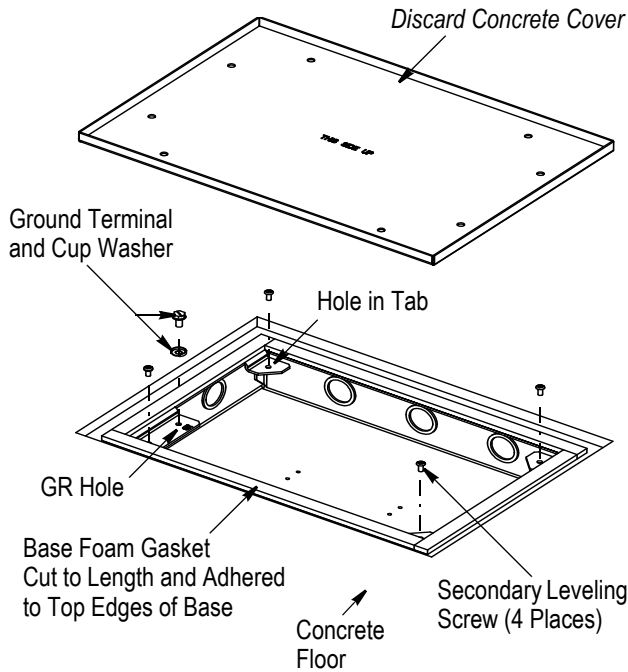

Figure 5
2. Cut the remaining foam gasket to length as required to cover the top edges of the base completely. Remove the adhesive backing from the base foam gasket, and adhere the foam gasket to the top edges of the base. See Figure 5.
3. Install, but do not tighten, the four secondary leveling (10-32x-1/2-in. pan head) screws in the holes in tabs of the base. Install the ground terminal and cup washer in the (GR) hole of the base. See Figure 5.